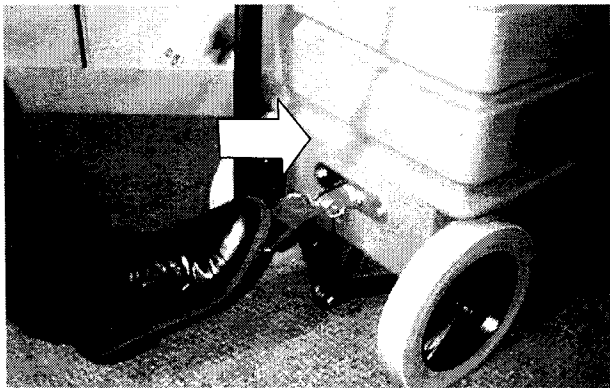

FIG. 10.
2. Lower squeegee to floor, lightly kick pedal forward to release from transport position. (Figure 10.)